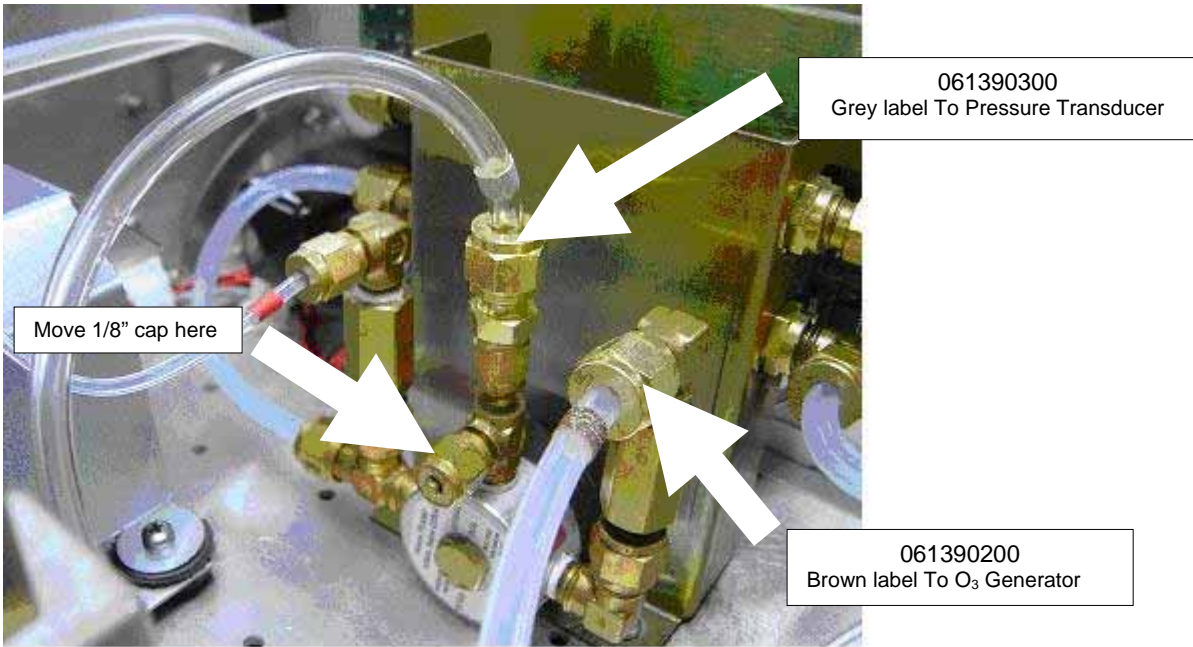

Figure 4
9. Move the 1/8" brass cap from the top of the tee on the regulator assembly to the lower port on the same tee. See Figure 4.
10. Connect the open end of the grey labeled 1/4" tygon tubing included in the kit to the bottom port on the pressure transducer. Connect the other end of the grey tubing with the stainless steel 1/4" to 1/8" reducer to the 1/8" tee on the regulator assembly. See Figures 4 and 5.